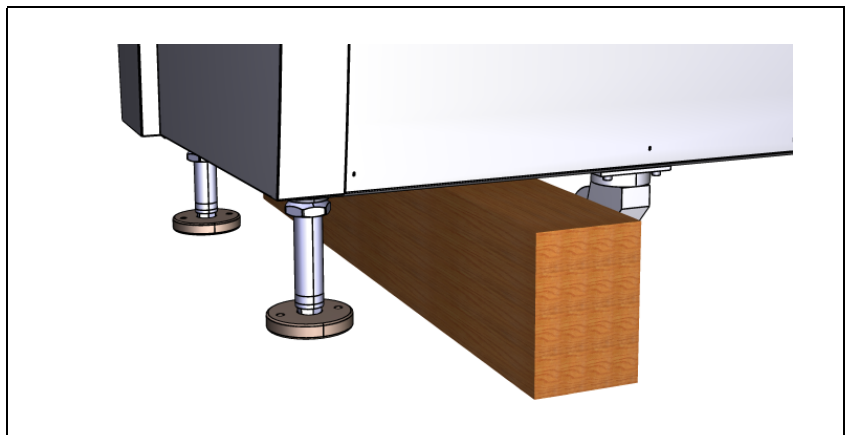

Figure 2-6. Fixed supports.
3. Place the machine on fixed supports, for instance 280 mm or higher solid wooden blocks. These supports **must** be placed under the frame of the machine (see Figure 2-6).